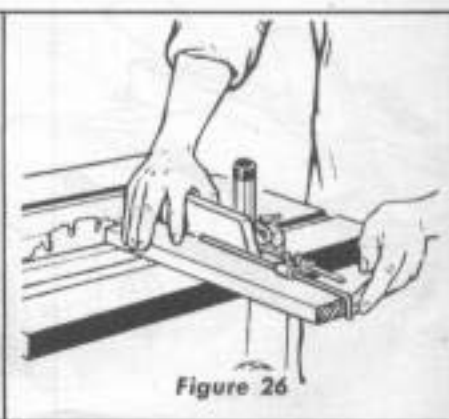

Figure 26
- If the work overhangs the saw table enough to sag at each end, provide supports the same as in ripping operations. The stop rod on the miter gauge, or a stop block fastened to the extension, is used to fix position of left-hand edge of work for measuring length of piece to be cut off. (See figure 26.)